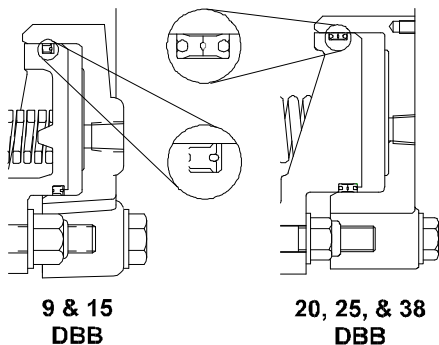

Fig. 11
- 4.4.4 Insert new seals into the grooves, noting the orientation of the seals per Figure 11.